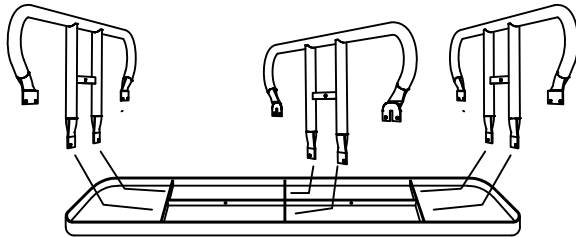
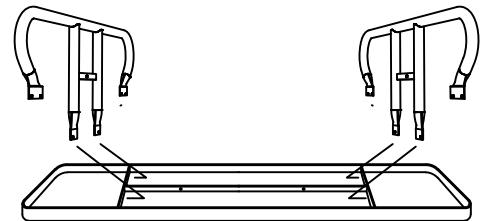

FIG. 1
FIG. 2
Invert (A-) top so it's upside down on a flat surface. Attach both (C-) legs to the innermost part of the 8' top end leg mounting brackets with seat mounting brackets toward inside of top, see FIG. 2. If assembling a 10' table, attach both (C-) legs to the outermost part of the 10' top. Attach the center leg at this time with seat mounting brackets toward top center leg mounting bracket, see FIG. 1. Use two, per each leg, (F) and (H) using two (G) and one (J) per each (F).
Secure the opposite end of each brace to the top's center support brace, see FIG. 4, refer to FIG. 1 or 2, using one, per each brace, (F) and (H). Use two (G) and one (J) per each (F).